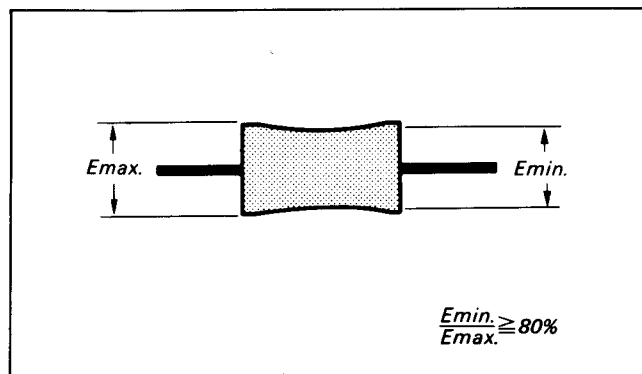

Fig. 8-85.
- 3) Confirm that the RF waveform amplitude minimum value (E min) at this time is more than 80% of maximum value (E max.). (Fig. 8-85)
- 4) Check that the fluctuation amount of RF waveform entrance and exit sides both is as shown in Fig. 8-85.